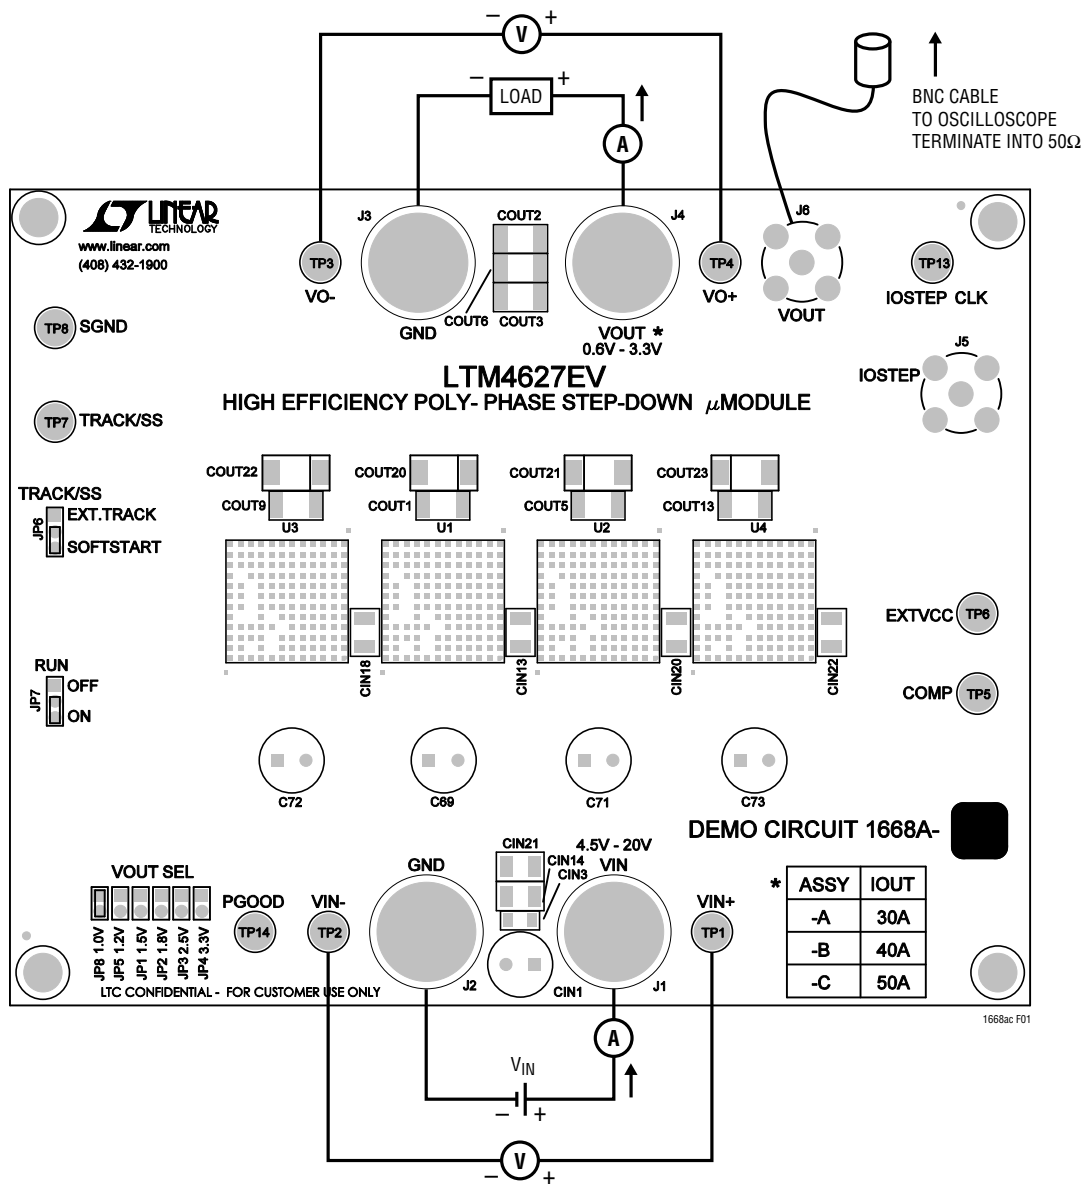

Figure 1. Test Setup of DC1668A-C
Demonstration circuit 1668A-C is easy to set up to evaluate the performance of paralleled LTM4627 modules. Please refer to Figure 1 for proper measurement equipment setup and follow the procedure below:
1. With power off, connect the input power supply, load, meters and V_{OUT} BNC cable as shown in Figure 1. Preset the load to 0A and V_{IN} supply to be 0V. Place jumpers in the following positions for a typical $1.8V_{OUT}$ application: